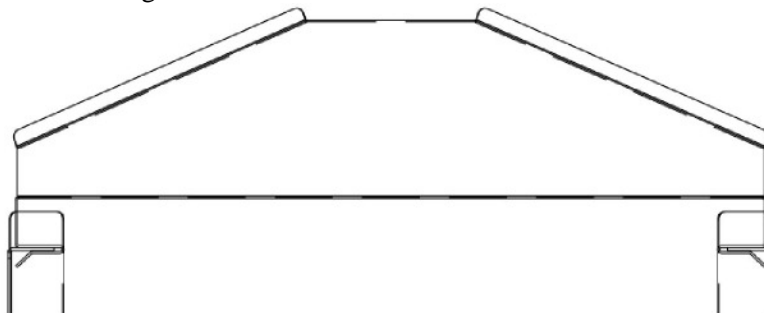

Fig. 3.
5. Position the second pan support rack into the cavity and slide the other mounting tab onto the rack flat bend while the pan support rack is not on the mounting studs. Hang the pan support by placing the rear key-way slot onto the rear mounting stud and slide the rack until the slot sits on the mounting stud. When this is done correctly the front mounting stud will be in position to place the front key-way slot. Slide the rack down into its correct position. See Fig. 3.